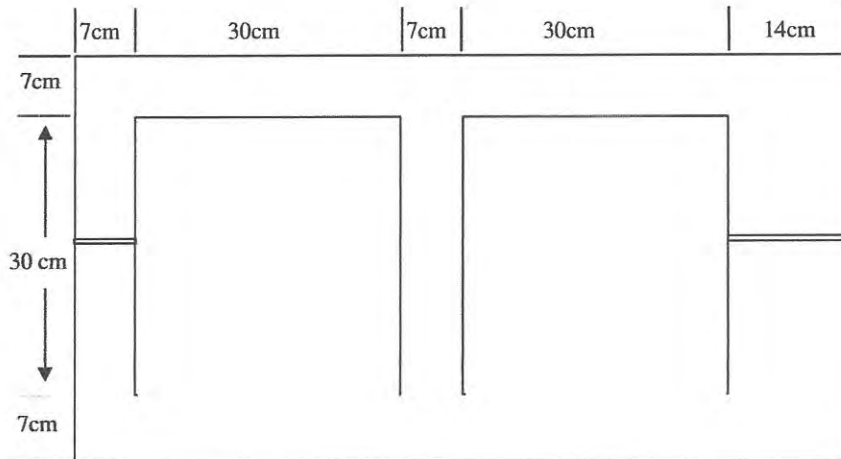

Figure Q1(a)
- Q1** (a) The dimensions of a ferromagnetic core with a depth of 7 cm and relative permeability of 1500 are shown in **Figure Q1(a)**. The air gaps on the left and right sides of the core are 0.07 cm and 0.05 cm, respectively. Due to fringing effect, the effective areas of both air gaps are increased 5% larger than their physical size. The number of turns of coil wrapped around the centre leg of the core and the current injected to the coil are 400 turns and 1 A, respectively.
- (iv) Propose **TWO (2)** method to reduce eddy current loss in ferromagnetic core. (2 marks)
- Q2** (a) (i) Explain briefly **FOUR (4)** types of AC electrical machines. (4 marks)
- (ii) State **THREE (3)** methods of speed control of induction motor. (3 marks)